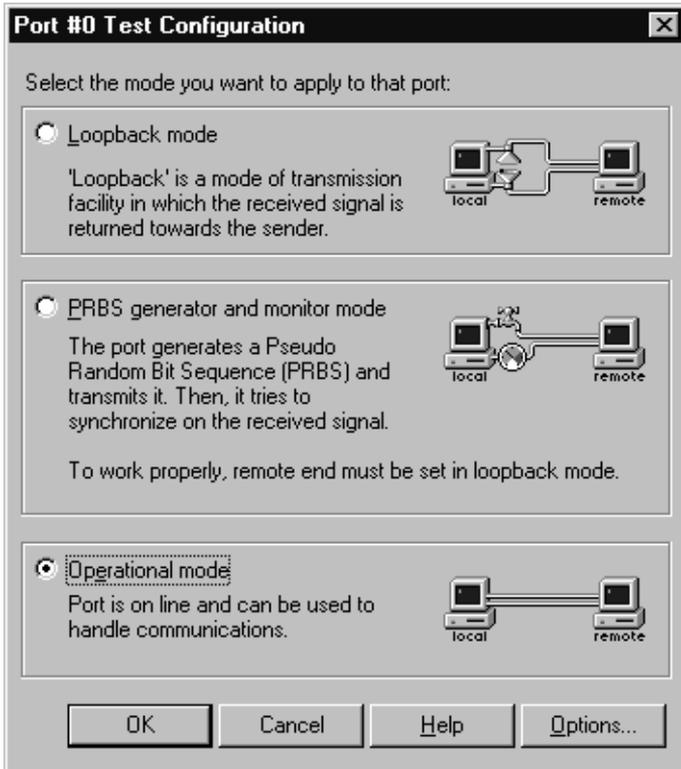

Figure E-2. Port Test Configuration Dialog Box
To select this mode, select **Loopback mode** on the Port Test Configuration dialog box (shown in Figure E-2 on page E-3).
To select this mode, select **PRBS Generator and Monitor mode** on the Port Test Configuration dialog box (shown in Figure E-2 on page E-3).
To return the port to Operational mode, select **Operational mode** on the Port Test Configuration dialog box (shown in Figure E-2 on page E-3).
1. Click **Options** on the Port Test Configuration dialog box (shown in Figure E-2 on page E-3).